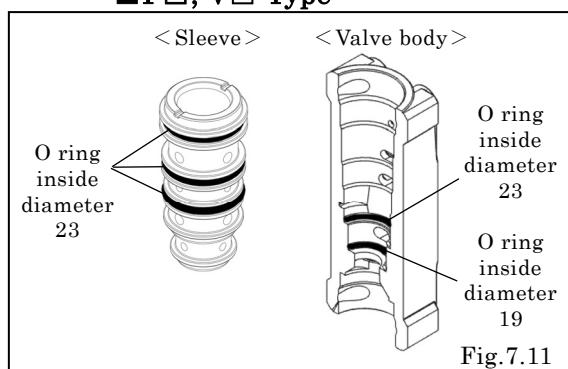

Fig.7.11
- Please place the O rings to the right positions on the outer surface of the sleeve. [Fig.7.11]
- Please insert the sleeve after putting the two O rings on the side of the valve body. [Fig.7.11]
- When embedding the sleeve into the valve body, please adjust the positions of the holes on the sleeve to the holes on the valve body. [Fig.7.11]